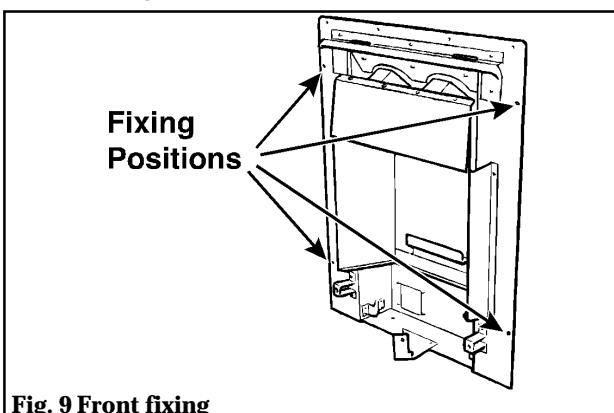

Fig. 9 Front fixing
**7.1.2** Mark the fireplace front surround through the four fixing holes in the side flanges of the convection box (see figure 9).